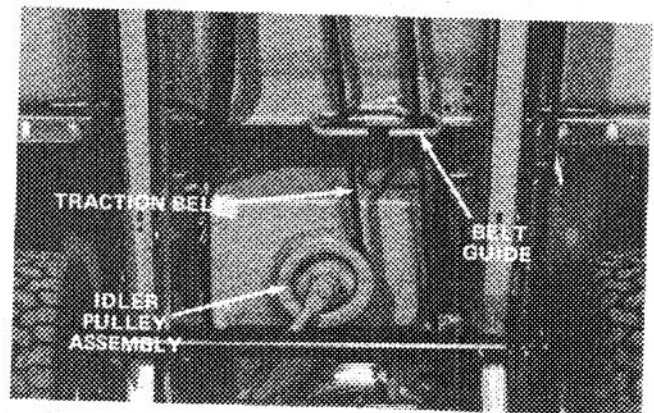

Figure 39
3. Reach under the tractor frame just forward of the rear wheels, grasp the idler pulley assembly, (Fig. 39) pull on it to relieve tension on the belt and remove the belt from the belt guide and idler pulley (Fig. 39).